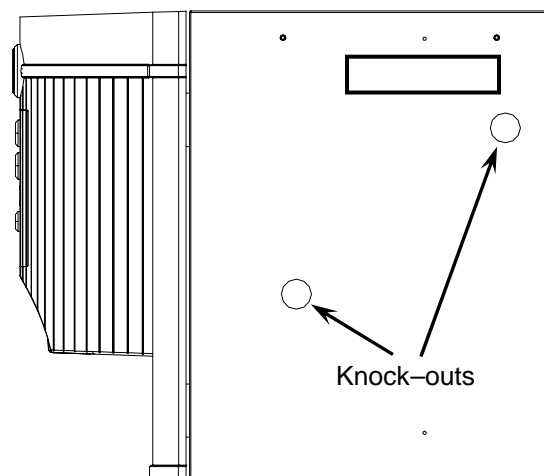

Figure 1 – Remove the knock-outs on side of unit.
5. Remove the knock-outs from the machine cabinet (*Figure 1*).